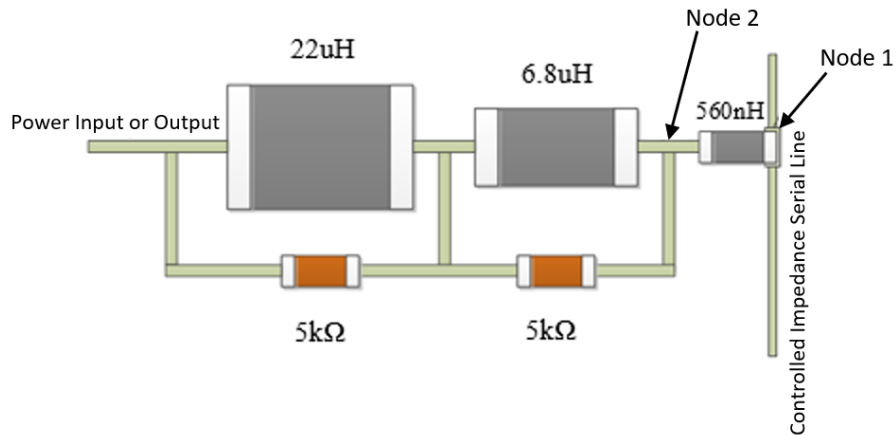

Figure 46. PoC Placement Strategy
- Place lowest inductor value directly on the GMSL2 serial link trace followed by the next highest and so on (see Figure 46 for a placement example).